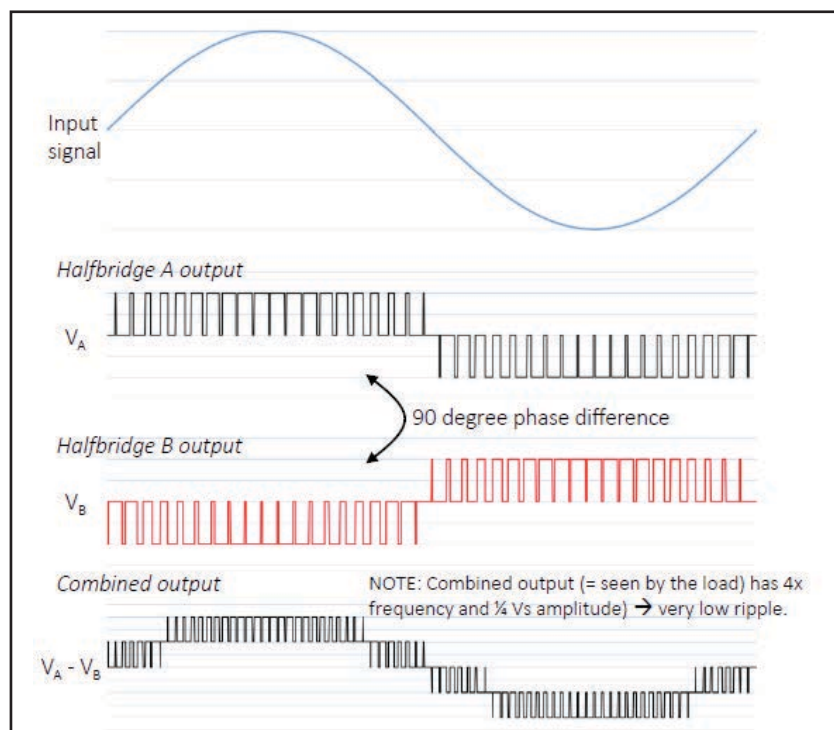

Figure 5: Signal is built up at the switching node in a BTL configuration.
**Figure 5** shows how the signal is built up at the switching node in a bridge-tied load (BTL) configuration for one sinusoid cycle. In this case, the speaker load switching frequency is four times the MOSFET switching frequency at the output nodes. Also note that the switching pattern gives rise to three states where complete cancellation of the out-of-band switching residue takes place. This directly translates to a reduction of the ripple current in the audio system output section. With no need to suppress out-of-band switching artifacts, many applications do not require a common-mode applied L-C filter.